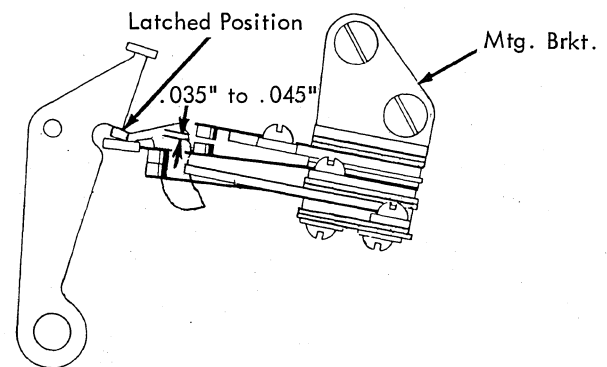

FIGURE 5-7. Carrier Return Interlock Active
- With the carrier return clutch latched, position the mounting bracket so that the N/C contact opens .035"-.045" (Figure 5-7).